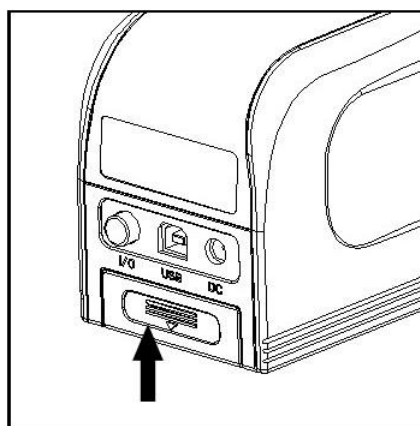

Figure 7. Mounting the battery cover
3. Follow the directions on Figure 7, press up to mount the battery into the compartment.